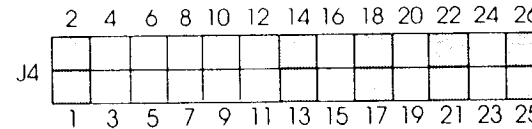

Figure 2
- Check jumpers on H/A with Figure 2.